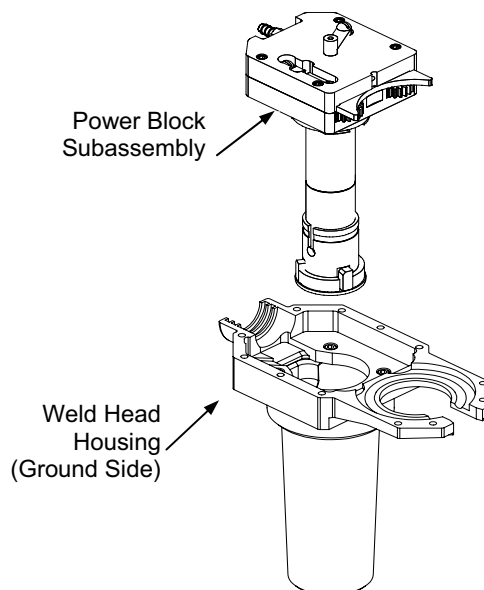

Figure 34 Removing the Power Block Subassembly
8. Carefully lift the power block subassembly out of the motor half of the weld head housing. See Figure 34.